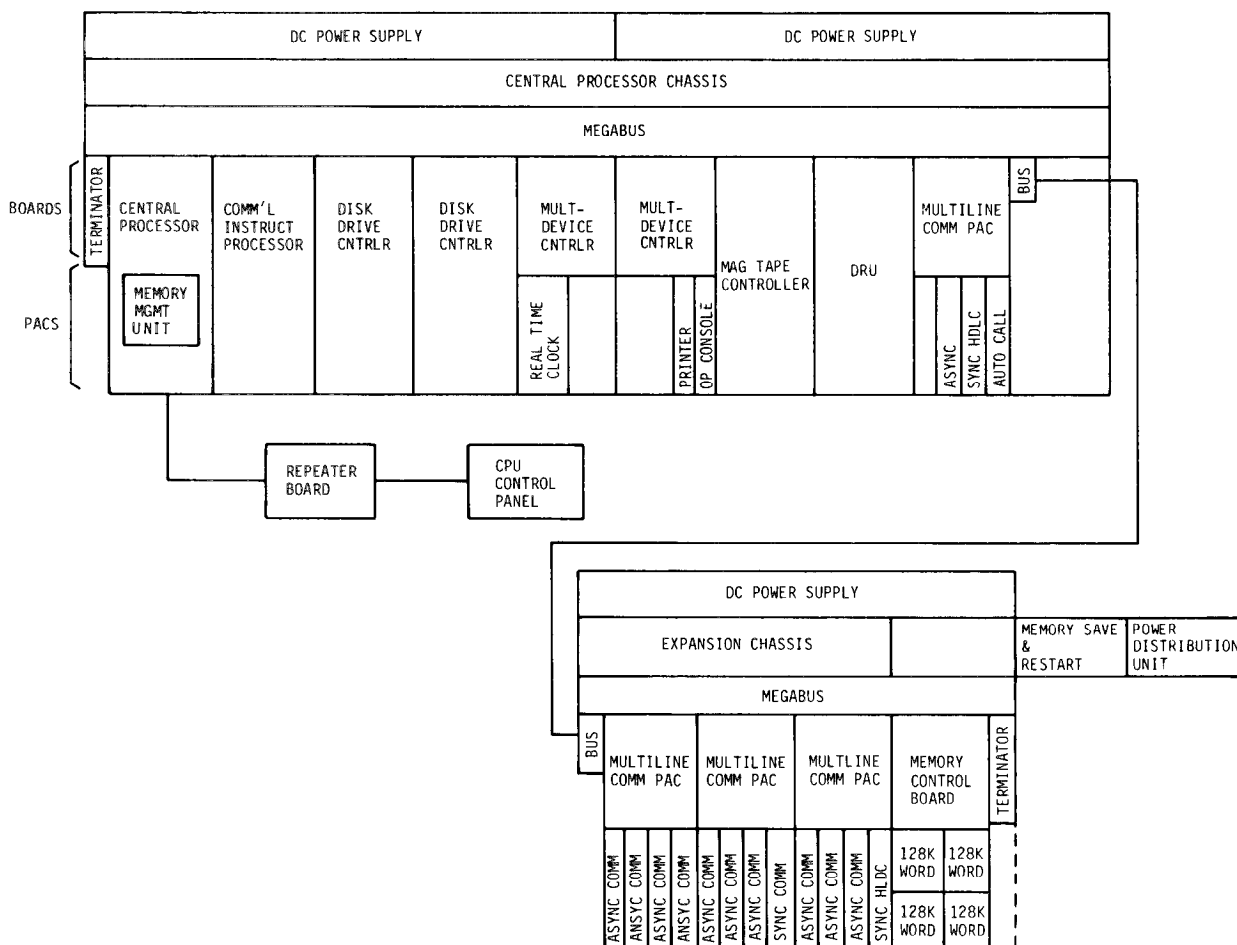

Figure 2-3. CPU Block Diagram
(1) There are two operating modes for the console terminal. LOCAL (off line) and remote (on line). The terminal is off line when LOCAL bottom is pressed down into lock position and on line (remote status) when LOCAL button is in the up position. The terminal displays all errors that the system sees.
(2) The console terminal controls the transfer of data during remote device communications. The operator can also test operation of peripheral devices by running the system exerciser program which will report any system faults. You will use the terminal during fault isolation to run T & V programs and view the results.
The CPU consists of a central processor (CP), memory management unit (MMU) commercial instruction processor (CIP), memory unit and equipment controllers, and a full control panel (fig. 2-3). The CIP **is** an additional hardware processor that operates in parallel with the CP. The CP receives an operating instruction from the software program or the console terminal and determines that DAS3 (D/C) is programmed to handle the transaction. It then sends the operating instruction code, the data description, and data addresses to the CIP via the megabus (backplane). The CIP begins processing the transaction, leaving the CP free to accept another command. If the command is not a program instruction, the CP handles it and proceeds to the next command. If another program instruction comes in before the CIP is finished executing the first one, the CP will wait until the CIP becomes free before sending the signal over the megabus.